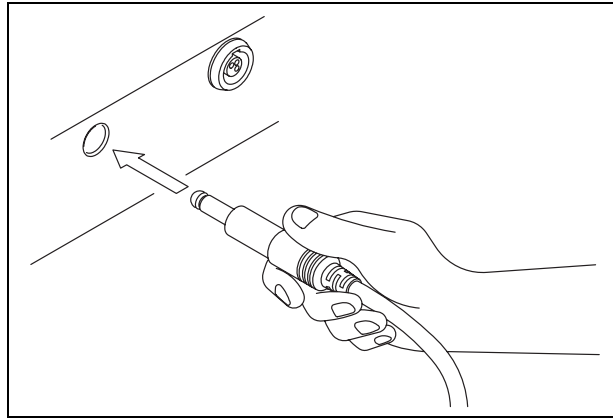

Figure 3.11
1. Confirm that the A-cord is free of scratches and cracks, and is not buckled, damaged or bent. Insert the A-cord plug into the active connector on the electrosurgical unit's front panel until it clicks (see Figure 3.11).